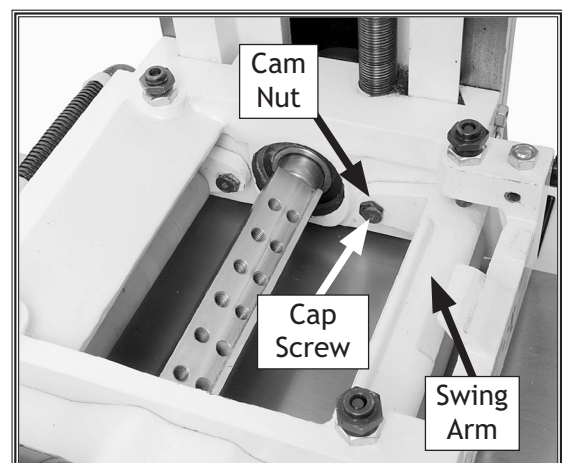

Figure 56. Feed roller adjustment.
8. Loosen the cap screw shown in **Figure 56**, then rotate the cam nut until the swing arm lowers and the roller just touches the block.